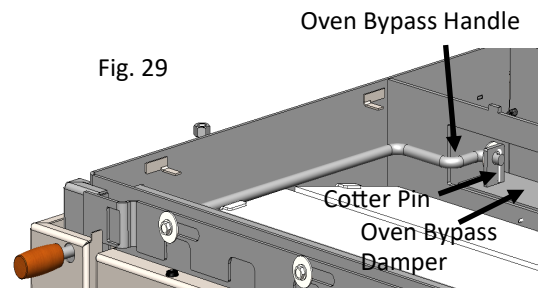

Fig. 29
1. Remove cotter pin from oven bypass handle. See Fig. 29.